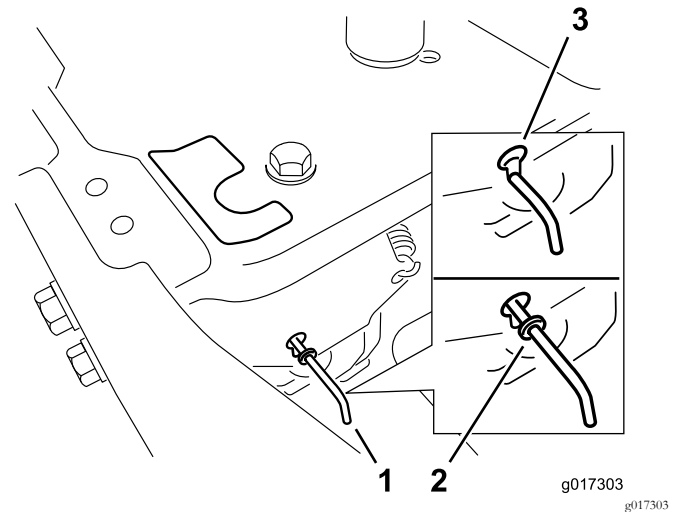

Figure 26
4. Move the bypass levers forward through the key hole and down to lock them in place (Figure 26).
Move the bypass levers rearward through the key hole and down to lock them in place as shown in Figure 26.